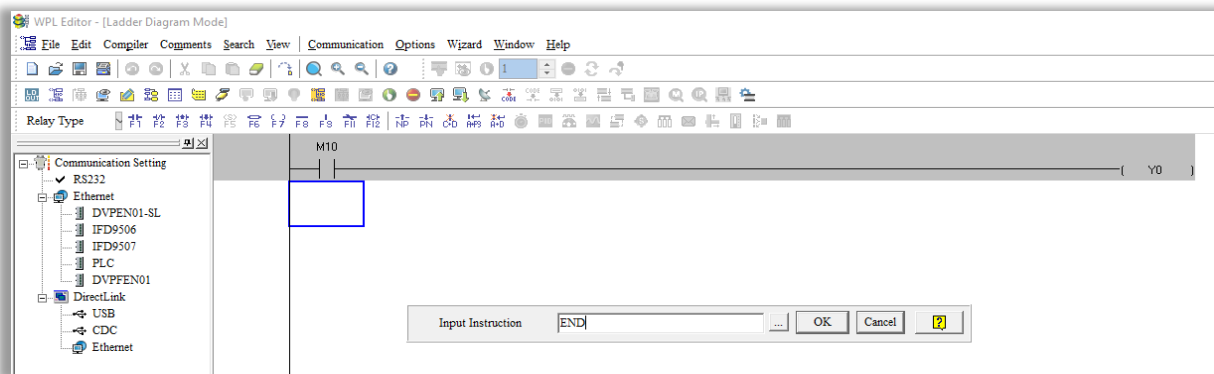

Figure 15-16
Step 4. Press ENTER key, and then an **Input Instruction** window appears. Type “END” in the field, and then click **OK**, as Figure 15-16, 15-17 shows.